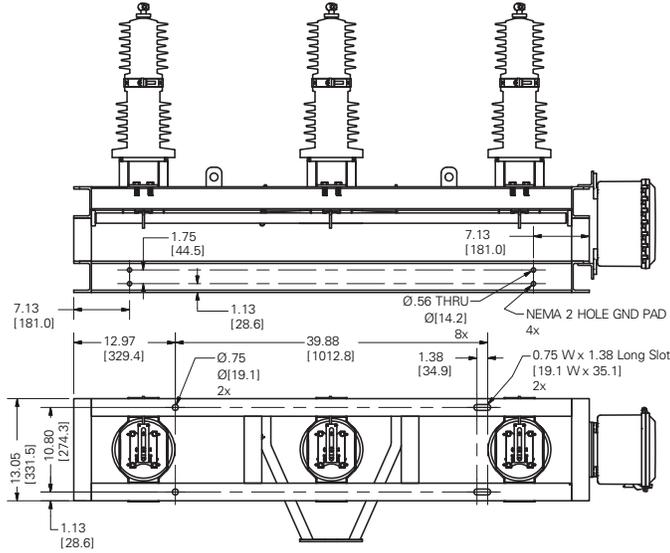

Figure 10. 15 kV switch.
Each TriSync capacitor switch frame has a four (4) integral grounding locations utilizing NEMA 2-hole grounding as shown in Figures 10, 11 and 12.